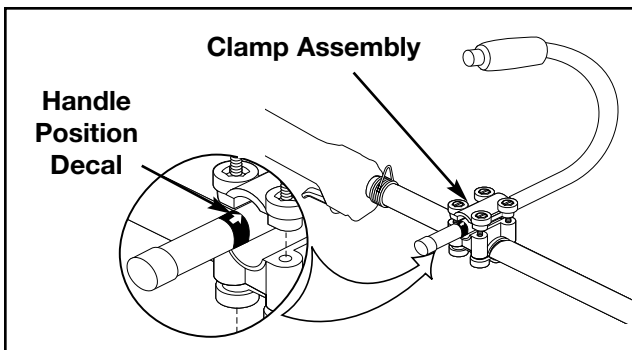

Fig. 2
1. Loosen the four (4) mounting screws on the J-handle. It is not necessary to remove the screws.
2. Slide the J-handle through the clamp until the arrow / white line on the decal touches the clamp assembly (Fig. 2).